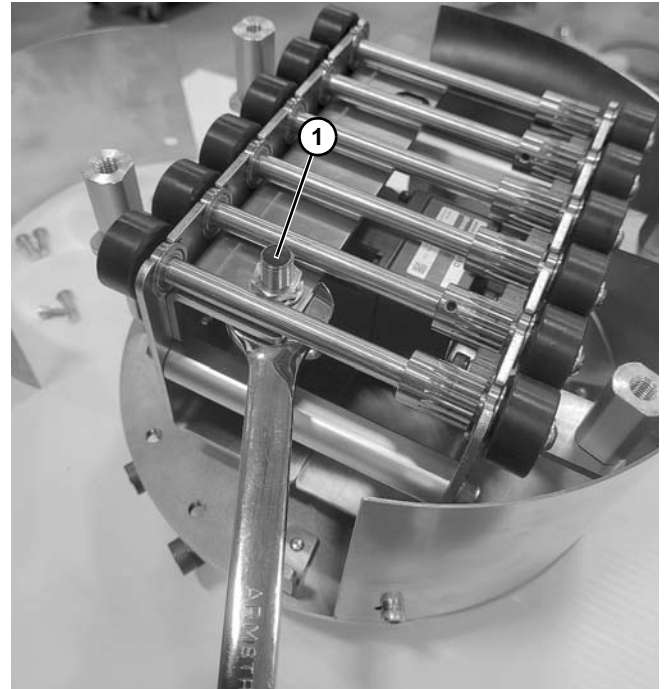
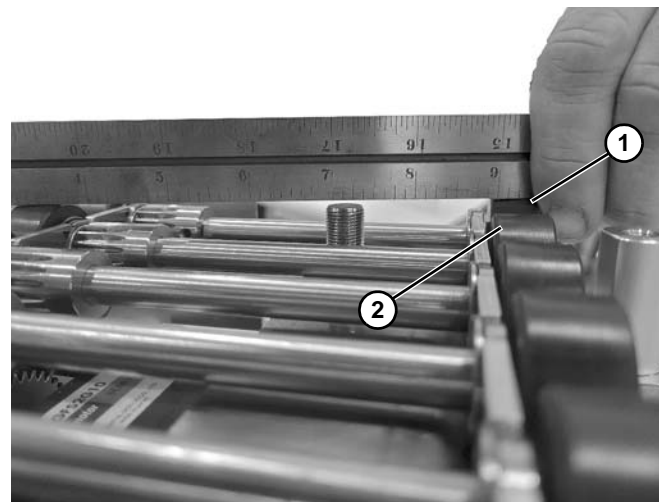

Figure 68
Figure 69
4. Adjust sensor's (**Figure 68, item 1**) height. Sensor must be approximately 1 mm (**Figure 69, item 1**) lower than the top of the rollers (**Figure 69, item 2**).